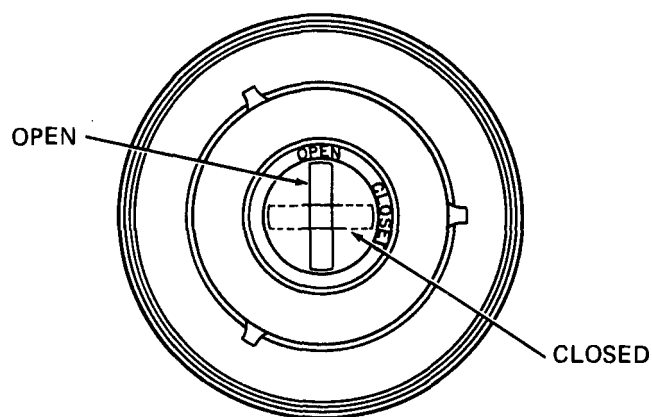

Figure 2-7. Fuel Filler Cap.
- h. Vent on underside of fuel filler cap must be in the open position whenever the set is running (see Figure 2-7).